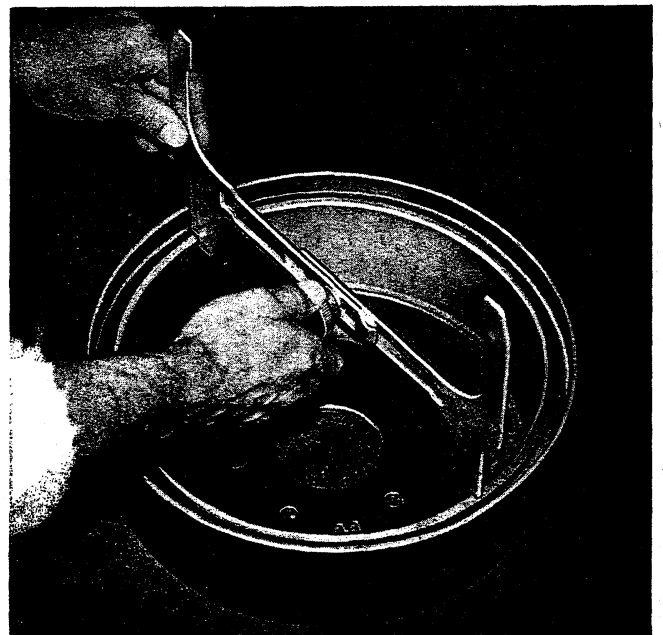

Fig. 16—Using Drum-to-Brake Shoe Clearance Gauge Tool J-21177
- a. Use special Tool J-21177; Drum-to-Brake Shoe Clearance Gauge, to check the diameter of the brake drum inner surface (fig. 16).